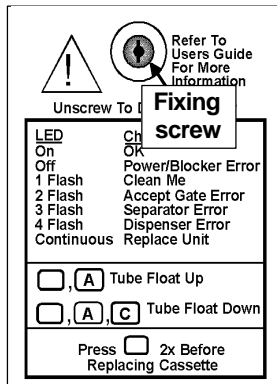
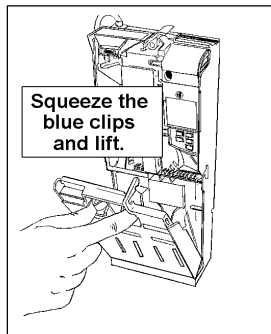
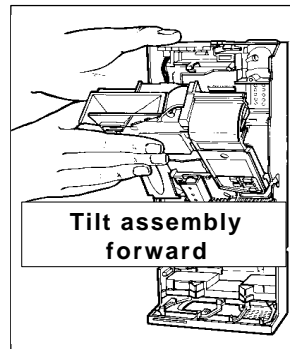

Figure 3
Figure 2
Figure 4
5. Remove the coin cassette if needed (Figure 2). Loosen the fixing screw (Figure 3) above the keypad until it is possible to tilt the acceptor assembly forward (Figure 4). The remaining mounting holes are now accessible. Tighten the screws as needed.